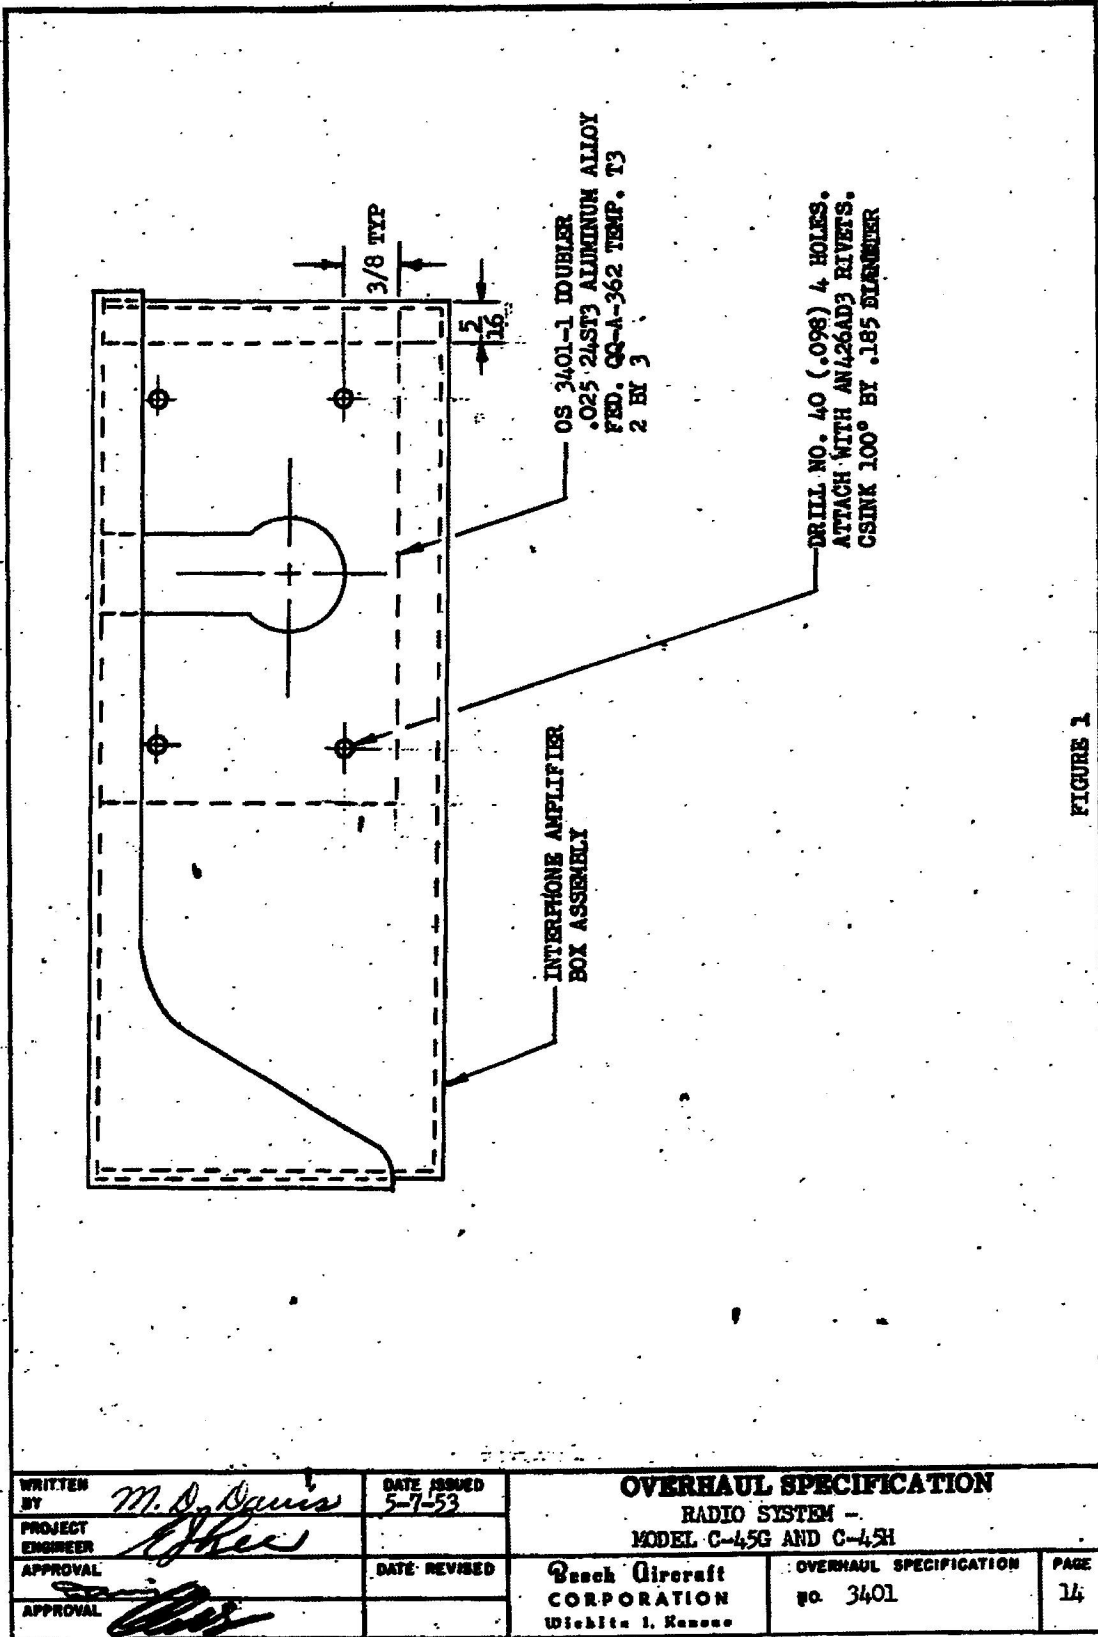

FIGURE 1
- (h) Install patch on slotted grommet hole of 804-180939 box as shown in Figure 1 of this specification.